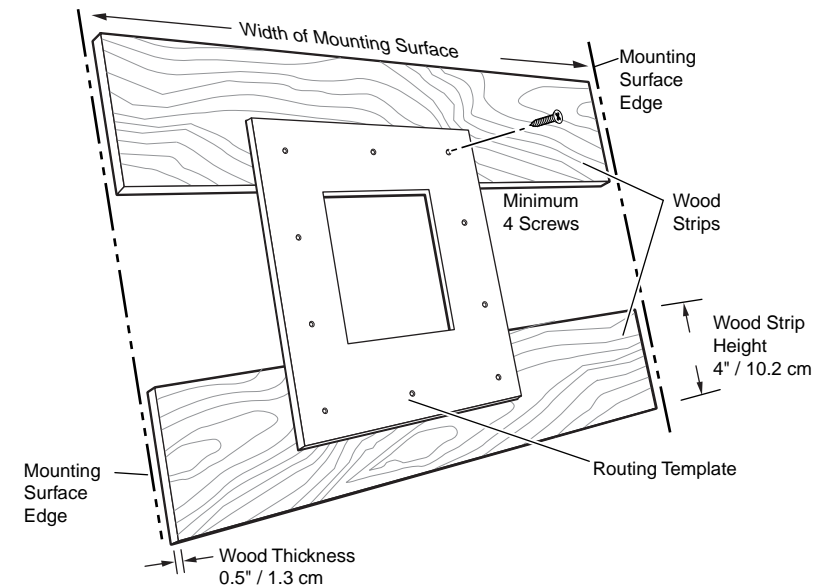

Figure 2-1 — Prepared mounting template
1. Cut two 1/2" x 4" (approximately 13 mm x 102 mm) strips of soft, finished lumber at least long enough to span the distance between the desired installation location on the table or other mounting surface and the edges of the mounting surface (figure 2-1).